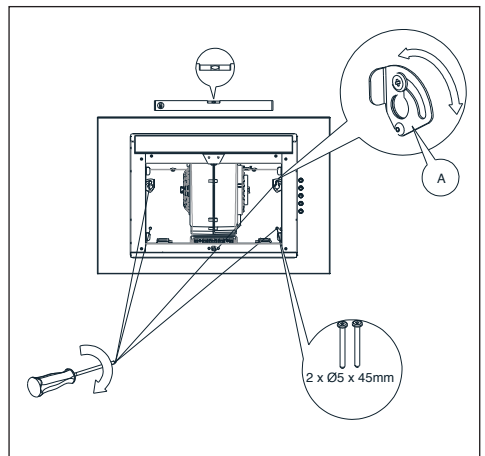

Fig.8 Range hood positioning
5. Place the level on the hood body. Rotating the element marked with A, adjust the hood level according the level's indications, and then tighten two screws previously screwed partially and screw in two remaining screws (Fig.8).